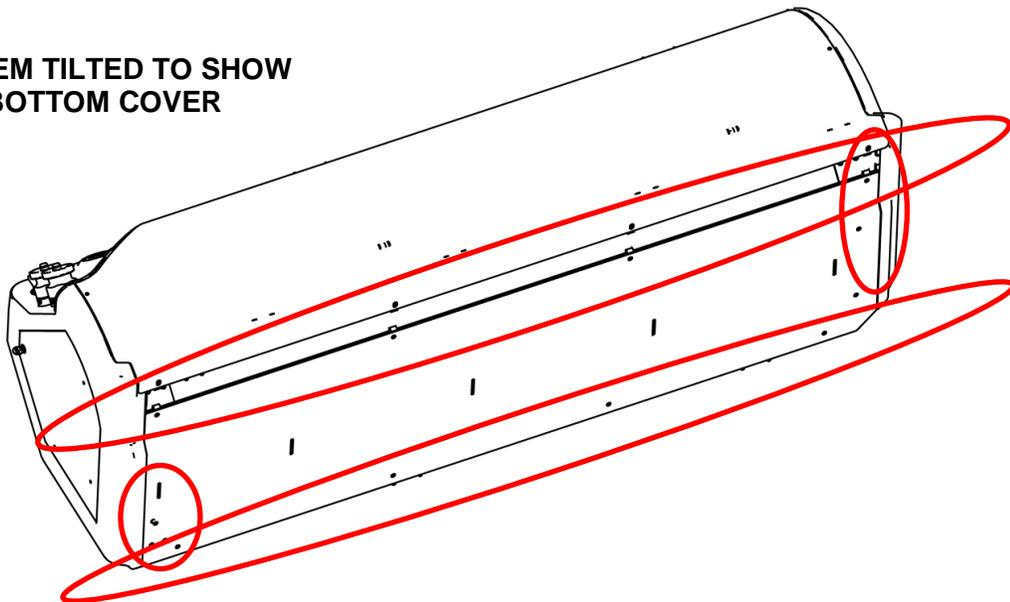

Figure 3 Working under the vehicle, remove the bottom cover to gain access to the PRD and vent tube. (Left side mount system with FMM shown.)
3. Remove the two fuel tubes going to the PRD and remove the three bolts that secure the PRD to the mounting bracket as shown in Figure 3.